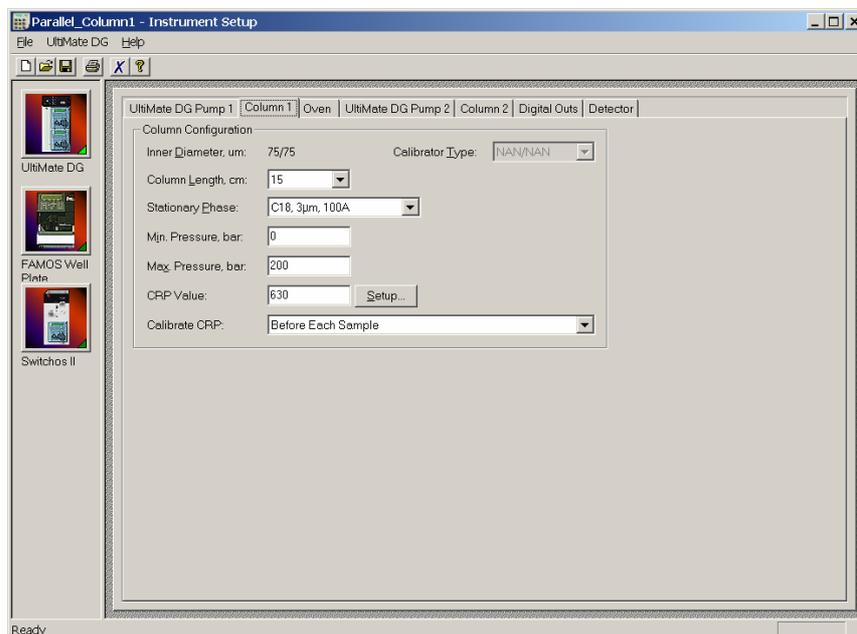

FIGURE 3-17 The Column 1 (Nano Column 1) Parameters Setup Window
- c) Choose the **Column 1** and **Column 2** tabs to display and to setup the column parameters and the CRP correction mode as discussed in Section 2.5.2 B. The following pictures present a typical setup for the two identical Nano separation columns (FIGURE 3-17).